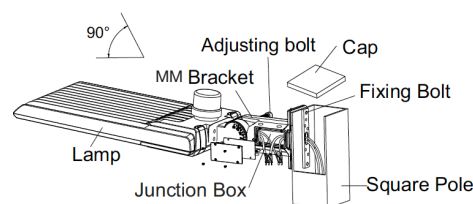
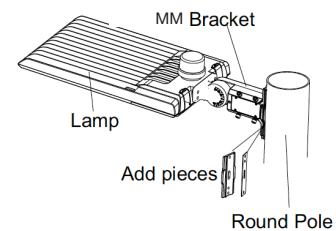

Fig. 16
Fig. 17
2. Fix MM bracket to square pole with bolt, open the access cover of the MM bracket junction box, pull the wire into the bracket junction box (Fig. 16). **Note:** Adjustable angle is 0-90°. Same as round pole installation. Remember to use the adapting plate for round pole installation (Fig.17)